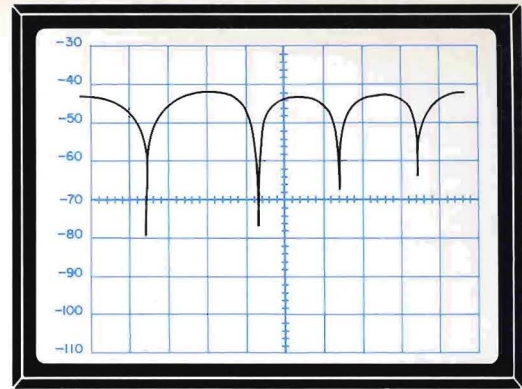

Figure 4-11 Sample Analyzer Display
2. Set RF Output Level Control (10) to -30 dBm or as desired.
3. Connect BNC "Tee" Connector to TRANS/-40 dB DUPLEX Connector (11).
4. Connect 50 Ω coax cable between one end of "Tee" connector and FM/AM-1500 ANTENNA Connector (56).
6. Using Keyboard (20), set FM/AM-1500 RF frequency to center frequency of 500 MHz.
7. Place ANALY DISPR Control (38) to "FULL SCAN" position.
8. Set or adjust RF Output Level Control (10), ATTENUATOR Switch (55), dB/DIV Switch (48) and VERT POS Control (45) as required for proper display of cable frequency response on spectrum analyzer.
9. While observing analyzer display, perform following steps (refer to sample display shown in Figure 4-11):